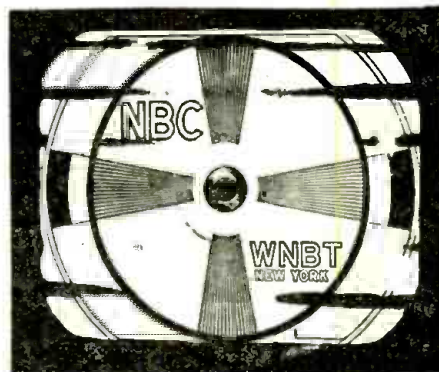

Fig. 5—Poor filtering causes this pattern.
4. Appearance of dark horizontal lines across an image (Fig. 5) may be due to either a poorly filtered powered supply or the existence of audio voltages at the image tube control grid. The fol-